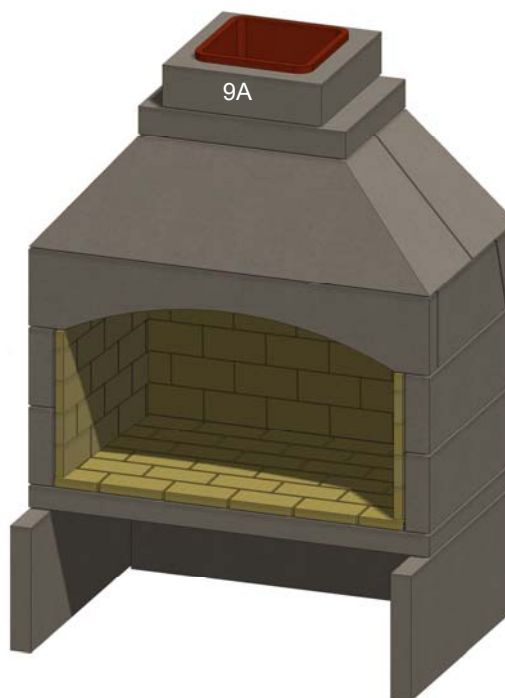

Figure 23. Chimney Flue
O. Install the first Stone Age masonry chimney section (9A), with the tile extending upward. Fill the void on the bottom with mortar to create a smooth transition. See Figure 23.